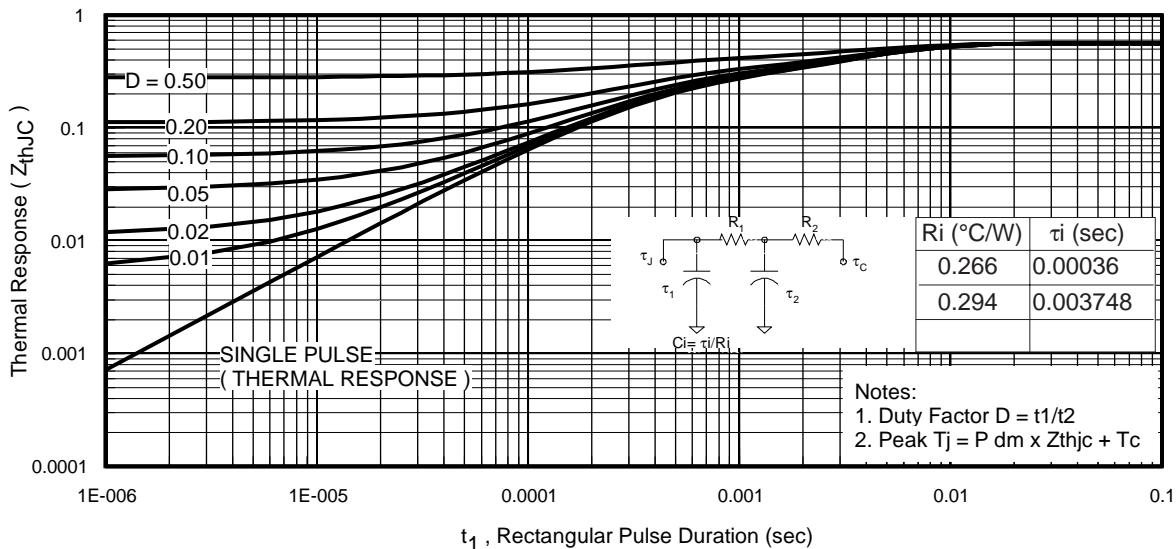

Fig 11. Maximum Effective Transient Thermal Impedance, Junction-to-Case
- ① Repetitive rating; pulse width limited by max. junction temperature. (See fig. 11)
- ② Starting $T_J = 25^\circ\text{C}$, $L = 60\mu\text{H}$